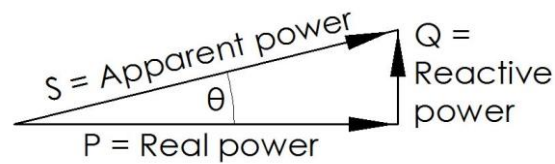

Figure 2.3 Power triangle increased power factor
As the power factor increases, the ratio of real power to apparent power increases and approaches unity (1), while the angle θ decreases and the reactive power decreases. **Figure 2.3.**